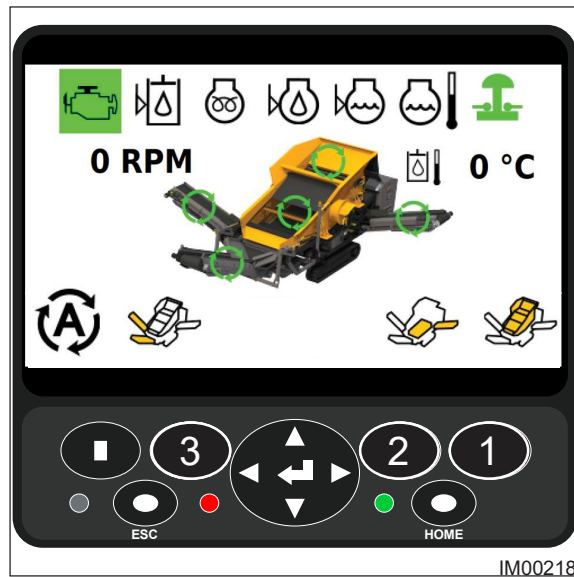

Fig: 9.7 - Machine Operating Screen
3. On the Machine Operating Screen, press the Vibrating Screen Box button (Item 1, Fig: 9.7).
4. Press the Collection & Fines Conveyor button (Item 2, Fig: 9.7).
5. Press the Oversize & Middle Grade button (Item 3, Fig: 9.7).